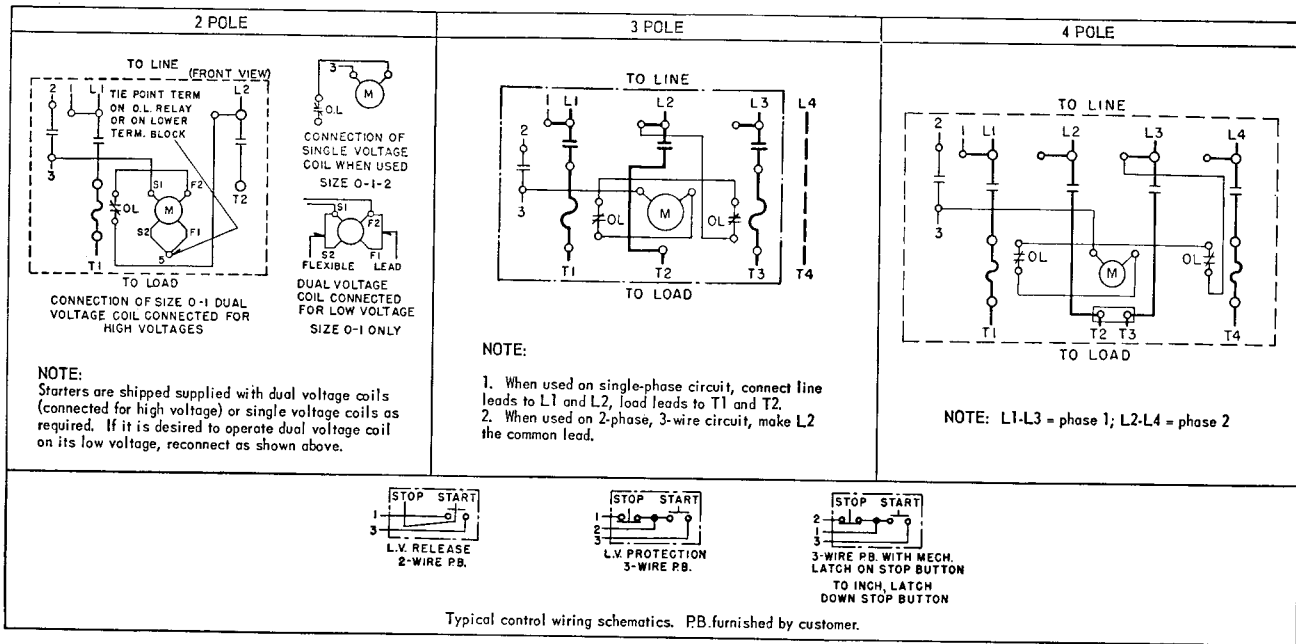

FIG. 3. Wiring Diagram
**DESIGN N LIFE-LINE STARTER** will give protection against overloads (but not against short circuit currents) when wired in accordance with Fig. 3 and provided with overload heaters selected from the Heater Application Tables.
If it is desired to operate the coil from a separate control circuit, disconnect control lead at "L2" and at lower right overload relay terminal (Fig. 3) and remove. Connect one side of separate control circuit to relay terminal where lead was removed and the other side to isolated terminal on top of left overload relay. To this point connect terminal "1" of PB station or master switch, in other respects connect per Fig. 3.